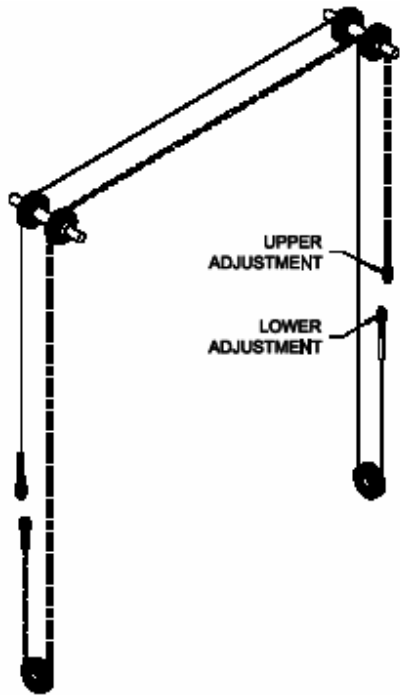

Fig 3- Cable Routing
16. Route synchronizing cables using Fig 3 and attach ends to carriages’ joining using Fig’s 4.